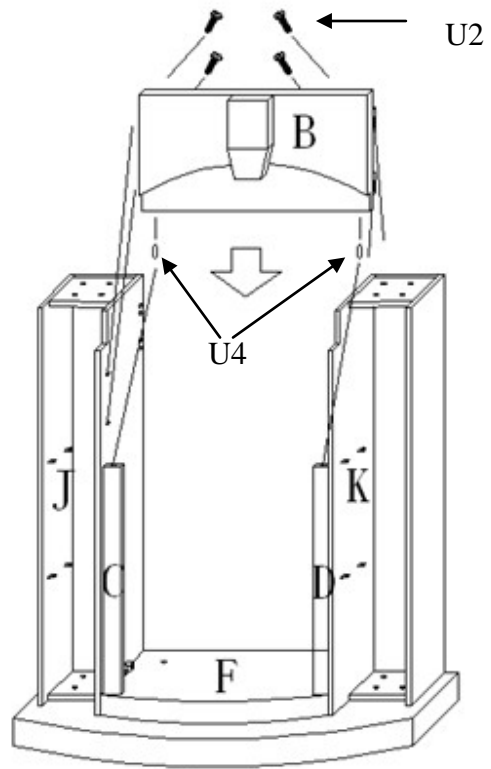

fig. 6
Step 6: Attach the Upper Front Panel (B) to the previously assembled unit using 4 pcs KD Screws (U2) and 2pcs Wooden Dowels (U4). See Fig. 6 below.